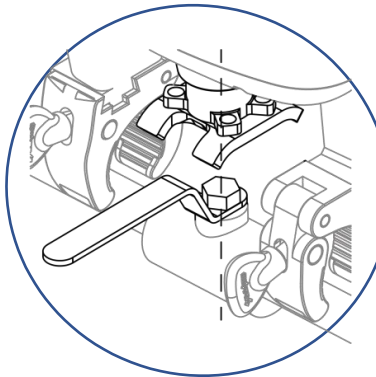

Figure 6A
- Choose right size Fork of BVS and aligning with Valve Handle. *Refer to “Figure 6A”